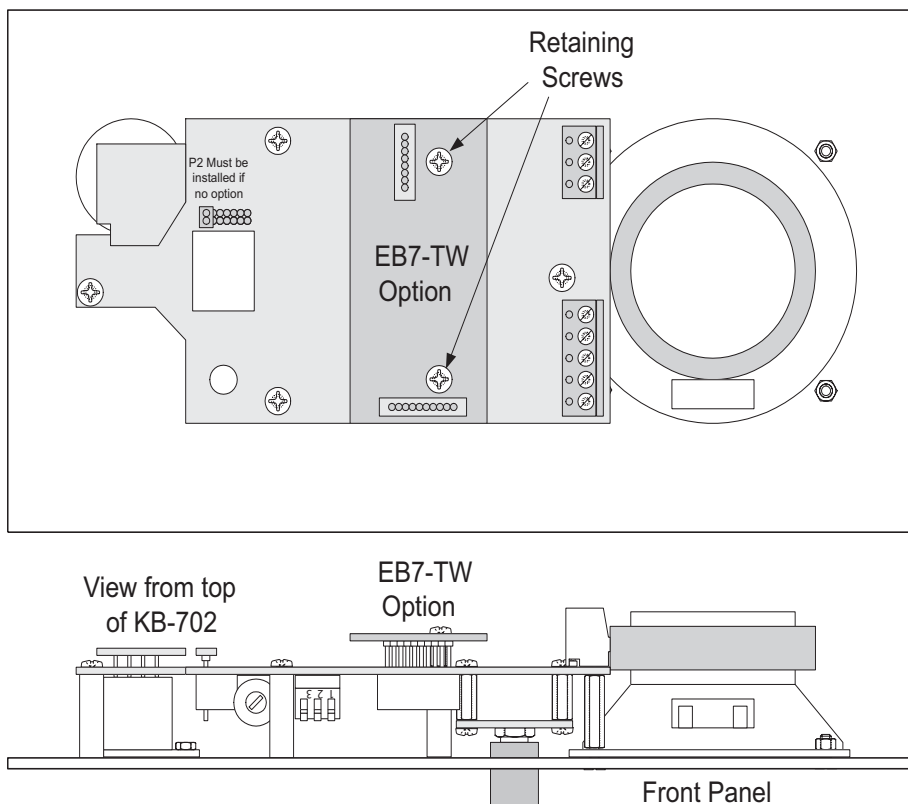

Figure 1: Installation Diagram
The EB7-TW Option plugs onto the speaker or headset stations as illustrated in Figure 1.
1. Remove the two screws from the station's main circuit board and replace them with the supplied jackscrews (see Figure 1).